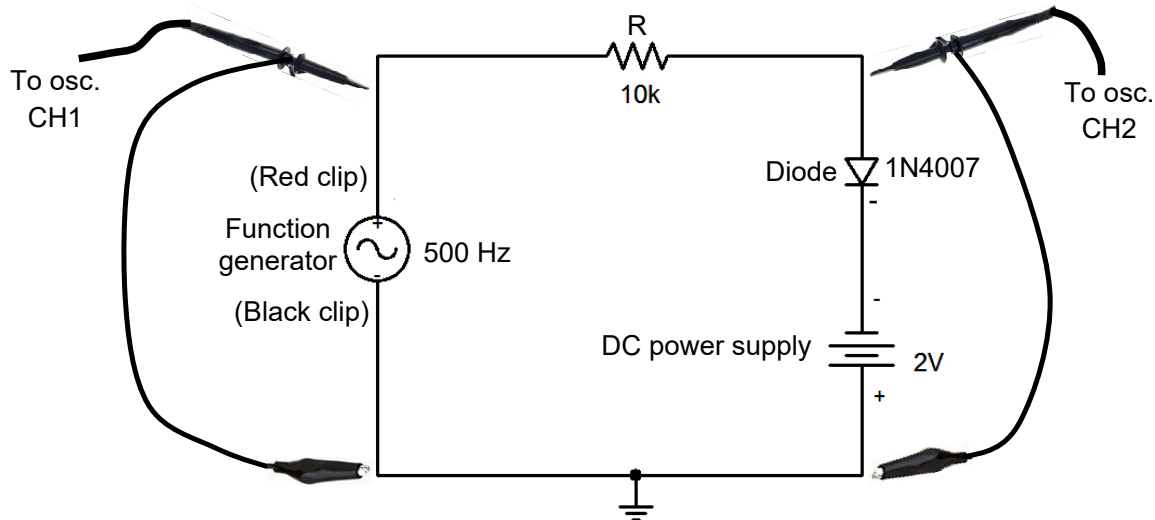

Figure 1: Diode clipping circuit
1. Using PSpice, draw the circuit as shown in Figure 1. For diode, use D1N4002. For function generator, use VSIN. Set its VAMPL = 3, FREQ = 500 Hz and leave the rest unchanged.
1. Connect the function generator, 10 k Ω resistor, diode and the DC power supply in series on a breadboard, as shown in Figure 1. For diode, the negative terminal is shown by the grey stripe on its body.
2. Connect the probe hook clip of the oscilloscope CH1 at the output of the function generator (labelled CH1 in Figure 1). Connect the CH1 ground lead (black croc clip) to the ground of the function generator (its black croc clip).
3. Connect the probe hook clip of the oscilloscope CH2 between the 10 k Ω resistor and the diode (labelled CH2 in Figure 1). Connect the CH2 ground lead (black croc clip) to the ground of the function generator (its black croc clip).
9. Continued from your circuit in Figure 1, reverse the diode polarity, i.e. the negative terminal of the diode is connected to the resistor. Repeat steps 4 to 8. What is the difference between the output signal in step 9 and step 5?